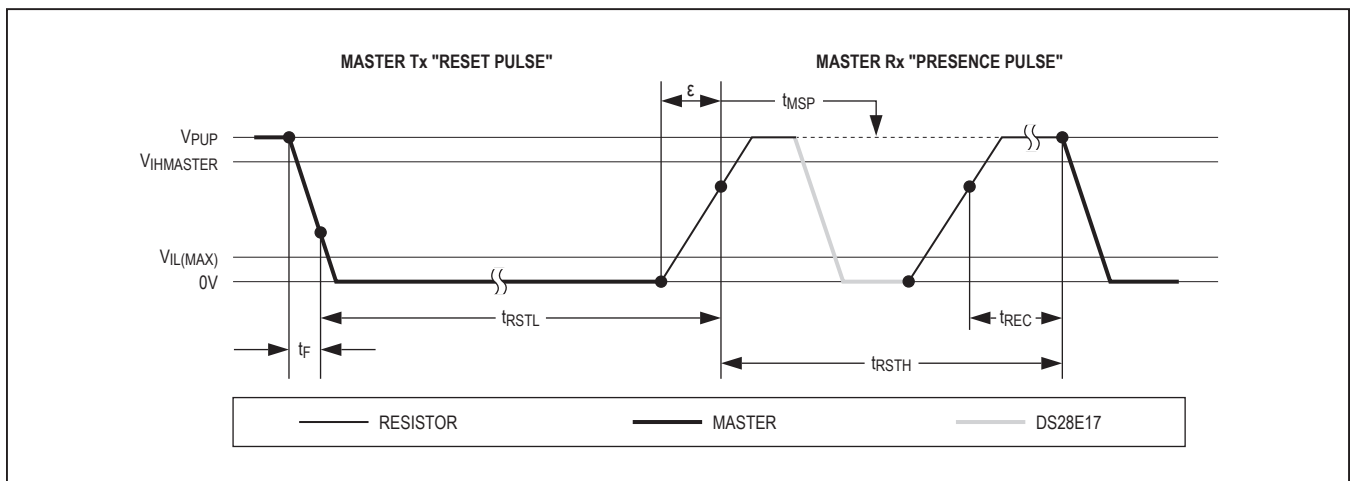

Figure 5. Initialization Procedure: Reset and Presence Pulse
**Note 12:** ε in Figure 5 represents the time required for the pullup circuitry to pull the voltage on IO up from VIL to VIH. The actual maximum duration for the master to pull the line low is tW1LMAX + tF - ε and tW0LMAX + tF - ε, respectively.
from active to idle, the voltage needs to rise from below  $V_{ILMAX}$  to above  $V_{IHMIN}$ . The time it takes for the voltage to make this rise is seen in Figure 5 as  $\epsilon$ , and its duration depends on the pullup resistor ( $R_{PUP}$ ) used and the capacitance of the 1-Wire network attached. The voltage  $V_{ILMAX}$  is relevant for the DS28E17 when determining a logical level, not triggering any events. For more information on the capacitance of a 1-Wire network, refer to Application 6208: *Extending I2C Communication Distance with the DS28E17*.
Figure 5 shows the initialization sequence required to begin any communication with the DS28E17. A reset pulse followed by a presence pulse indicates that the DS28E17 is ready to receive data, given the correct ROM and Device command. If the bus master uses slew-rate control on the falling edge, it must pull down the line for  $t_{RSTL} + t_F$  to compensate for the edge. A  $t_{RSTL}$  duration of  $480\mu s$  or longer exits the overdrive mode, returning the device to standard speed. If the DS28E17 is in overdrive mode and  $t_{RSTL}$  is no longer than  $80\mu s$ , the device remains in overdrive mode. If the device is in overdrive mode and  $t_{RSTL}$  is between  $80\mu s$  and  $480\mu s$ , the device resets, but the communication speed is undetermined.